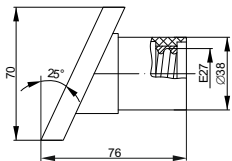

Figure 1 – Pkb27-04-K31
2.3 Overall dimensions of lampholders and adapters are shown in the figures 1–27.